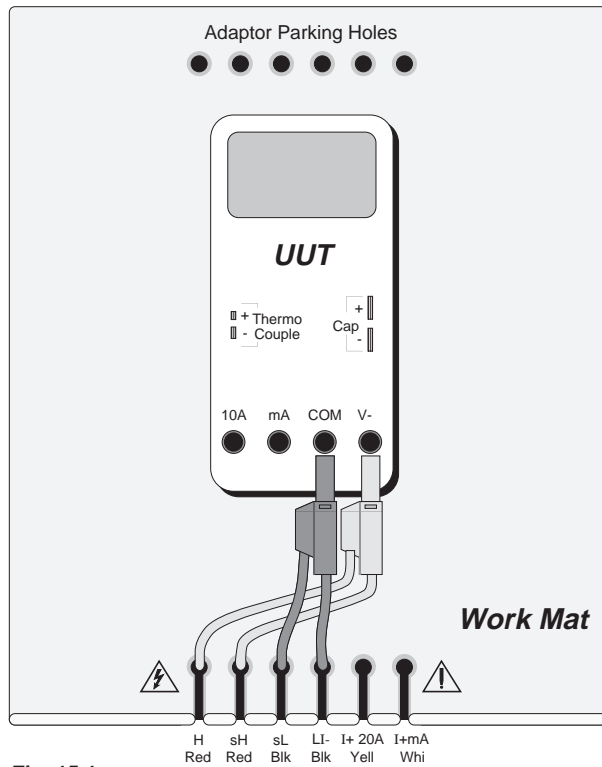

Fig. 15.1
The general connection scheme for UUT calibration is illustrated in *Fig. 15.1*. The use of either 4-wire remote sensing at the UUT terminals, or 2-wire local sensing at the 9100 terminals, is served by the same connections from the 9105 at the work mat. Selection of 2/4-wire is carried out on the 9100 front panel.
1. Connections Connect the 9100 to the UUT as in Fig. 15.1, and ensure that both instruments are powered ON and warmed up.
Connect the 9100 to the UUT as in *Fig. 15.1*, and ensure that both instruments are powered ON and warmed up.